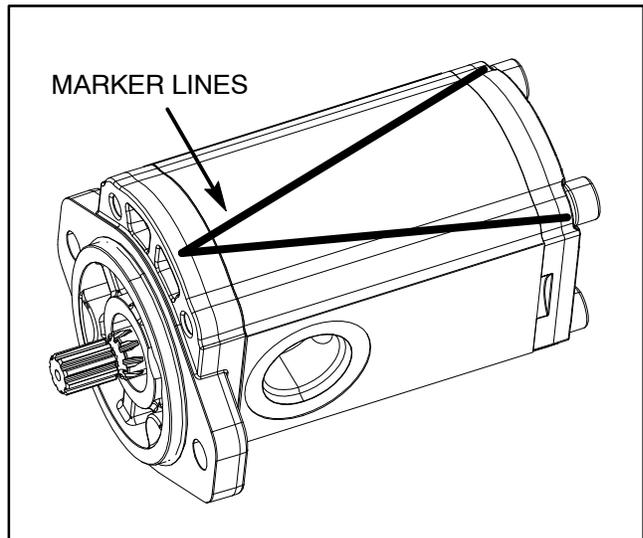

Figure 39
2. Use a marker to make a "V" across the front cover, housing and end cover for assembly purposes (Fig. 39).